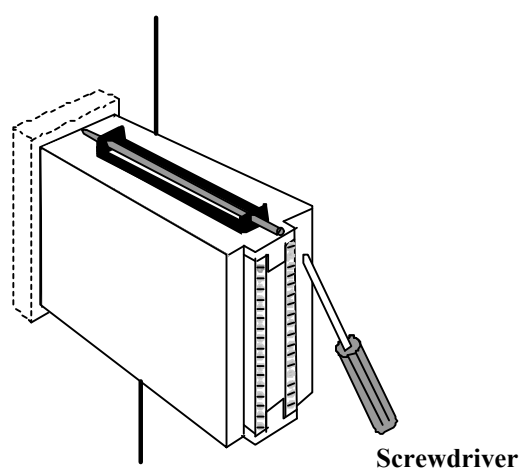

Figure 2.2 Hooking the clamps and blocking with the screws
2. Fit the two mounting clamps, fixing them in the slots of the instrument case, on the top and on the bottom of the instrument walls. To hook firmly the clamps, slide them away from the panel, in the direction of the termination unit. (fig. 2.2)